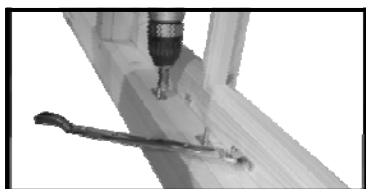

Fig A5
10. Position the first pin so it fits into the first hole on the stay making sure it holds the window tight. Carefully remove the stay holding the pin in position, secure pin using 2 x 25mm screws (Fig A5) . Repeat for other pins.